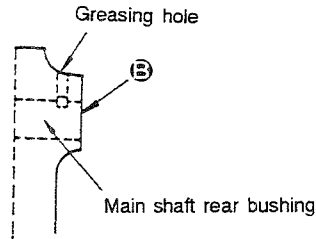

Fig. 5-56-2
- 1) When driving in the main shaft rear bushing, be sure to align the greasing hole in the arm with the greasing hole in the main shaft rear bushing. In addition, be sure that the end face of the main shaft rear bushing is flush with the end face of the arm at face ③. (Fig. 5-56-2)